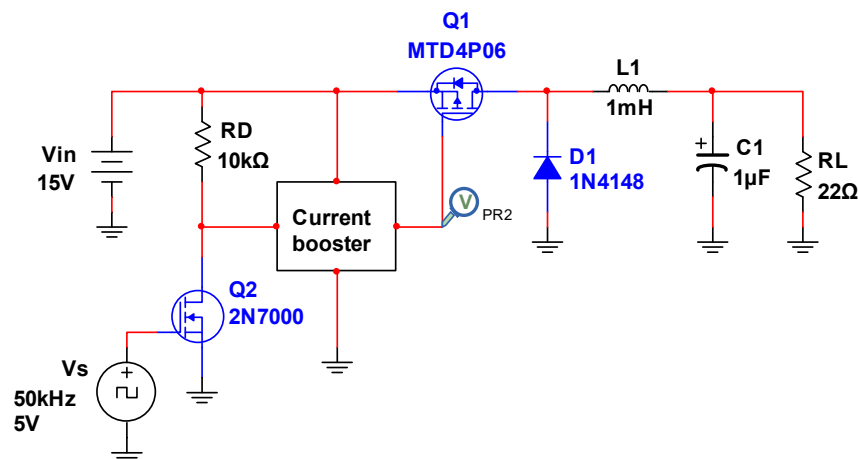

Fig. 4: Add a current booster to more quickly charge/discharge the Q1 gate capacitance!
- This flat spot is called the “Miller plateau”, which is often a limiting factor in MOSFET switching speed. We’ll discuss details later, but two things to keep in mind: (1) the Miller plateau voltage corresponds to the V_{GS} that fully turns on the MOSFET (2) the Q1 gate acts like a big capacitor.
- **TASK 2: Modify the logic shifter circuit (Fig. 4) to shorten the rise time of the Q1 gate voltage.**